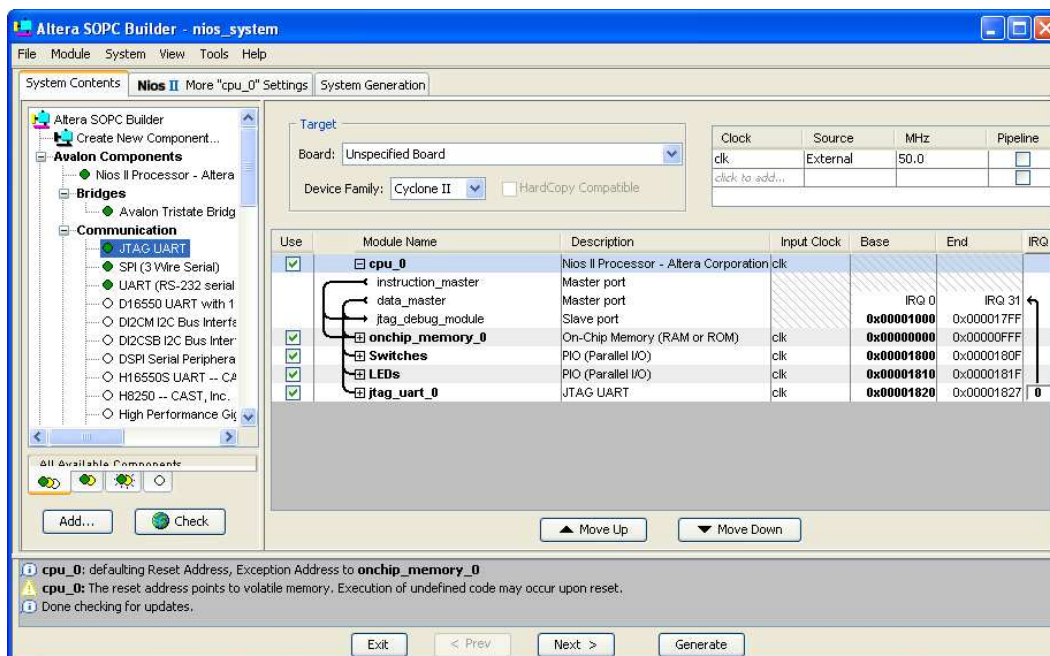

Figure 14. The final specification.
11. The base and end addresses of the various components in the designed system can be assigned by the user, but they can also be assigned automatically by the SOPC Builder. We will choose the latter possibility. So, select the command (using the menus at the top of the SOPC Builder window) **System > Auto-Assign Base Addresses**, which produces the assignment shown in Figure 14.